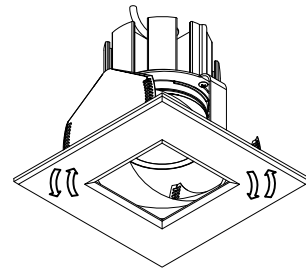

fig. 2d
3. Palm face of Trim Section and rotate CW or CCW to adjust aim of accent lighting and to align edge of square Trim Section with wall (fig. 2d). Adjust as desired.